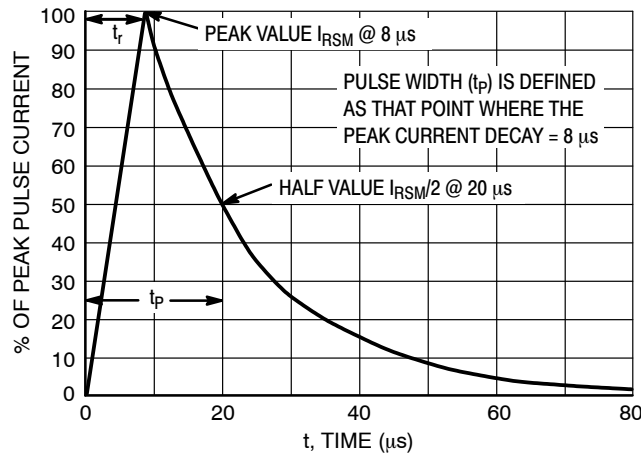

Figure 5. 8 x 20 μs Pulse Waveform
1. Nonrepetitive current pulse per Figure 5 (Pin 5 to Pin 2).
- Nonrepetitive current pulse per Figure 5 (Pin 5 to Pin 2).
- Surge current waveform per Figure 5.